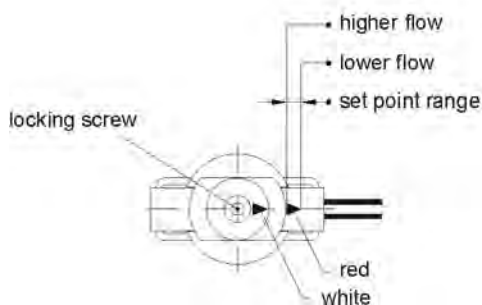
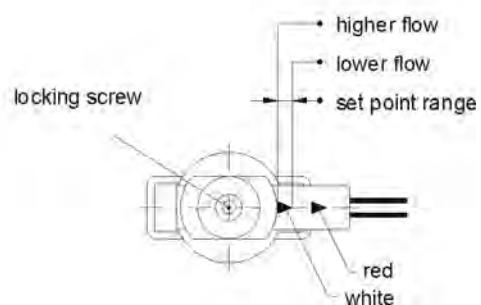

Fig. 16
Fig. 17
- ⇒ Subsequently loosen the locking screw (2.5 hexagon socket screw for the brass and stainless steel version or recessed head screw for the plastic version) and position the switching unit until the red or white arrow are visible at the entry of the switching contact guide for a desired make contact (Fig. 16) or break contact (Fig. 17) respectively.